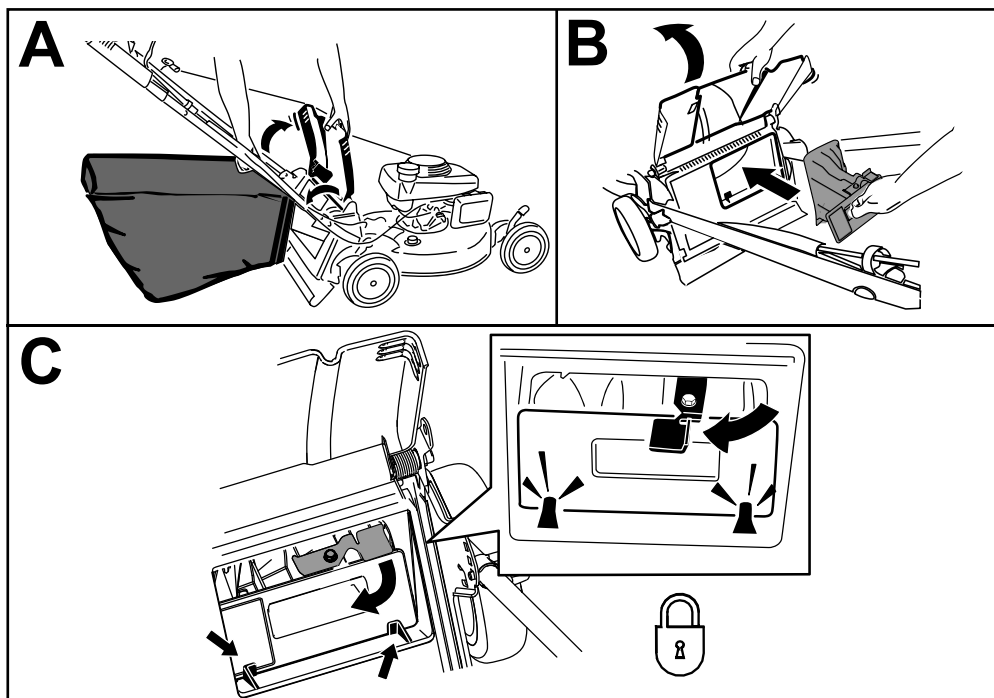

Figure 17
1. Raise and hold up the rear deflector and lift the grass bag up by the handle off the notches of the handle brackets (A of Figure 17).
2. Install the rear plug (B of Figure 17).
**Important:** Ensure that the rear plug is locked in place. To lock the plug, firmly push the plug in until it snaps into place behind the tabs, and rotate the lever on the plug to the left (C of Figure 17).